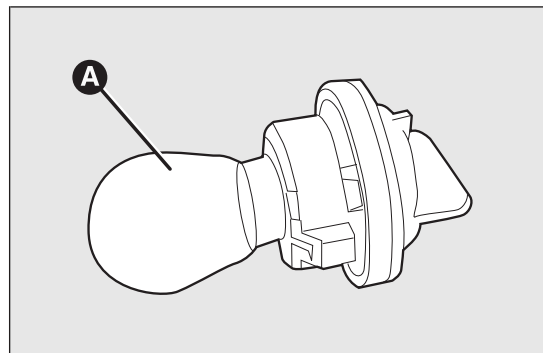

fig. 148
- ❑ remove the bulb A fig. 148 and replace it;